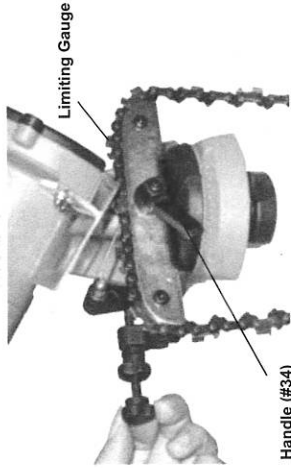

FIGURE 8
8. Lock the chain in the **Sliding Guides (#31)** by turning the **Handle (#34)**. See **FIGURE 8**. The **Handle (#34)** should be situated so that you can easily release and tighten it. You will need to release it each time you move to the next link, and tighten it to sharpen each link.
9. If the chain has been repeatedly sharpened, the chain depth limiting gauges may need to be taken down with a flat file (not included). See **FIGURES 8 & 9**. File down each gauge so that they are at a lower level than cutting teeth.